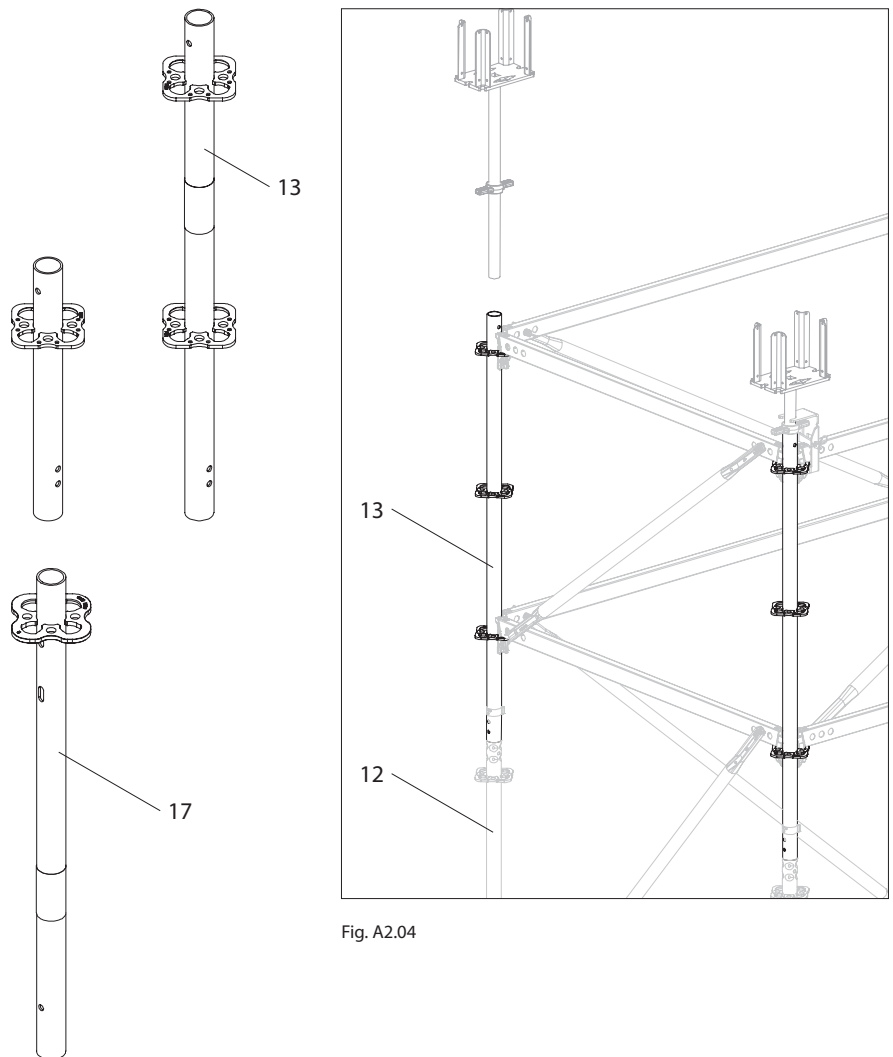

Fig. A2.04
1. Put the Top Standard UVH-2 (13) on the Standard UVR-2 (12).
- (Fig. A2.04)